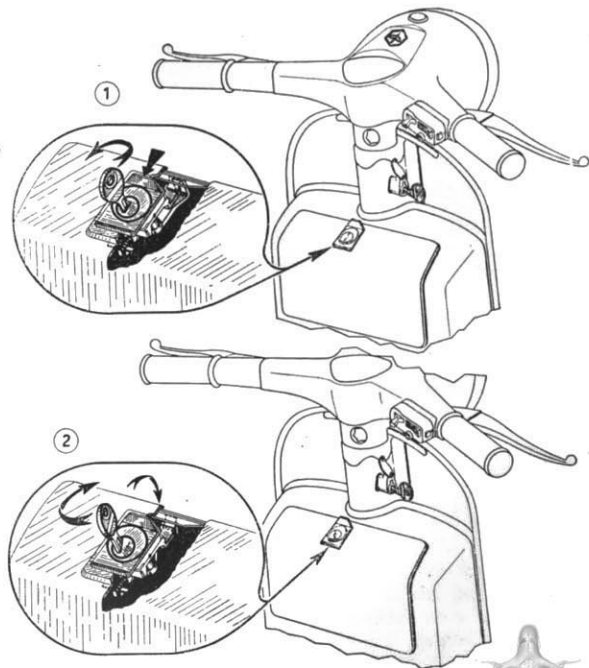
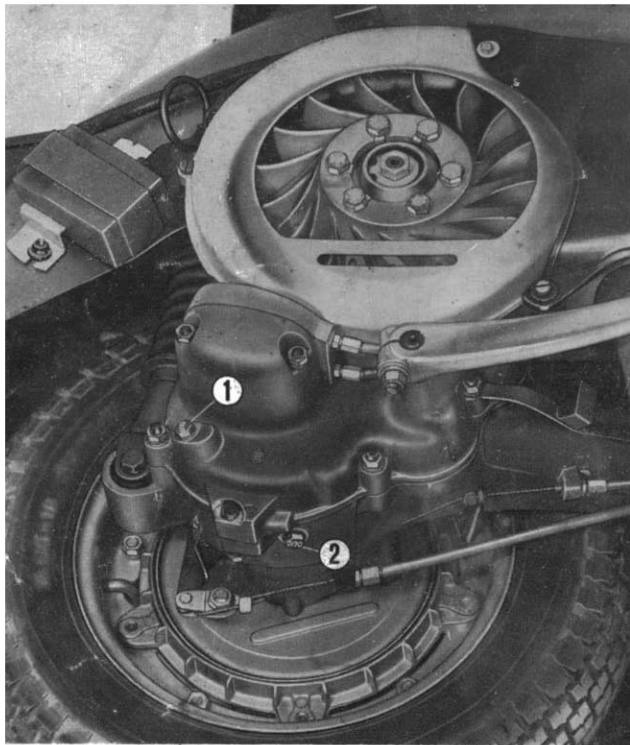

Fig. 4 - Front tool box lock
Fig. 16 - Oil filler hole (1); oil draining hole (2).
<p data-bbox="144 215 412 280">2. Front tool box lock</p> <p data-bbox="144 591 452 656">BEFORE OPERATING THE VEHICLE</p>	<p data-bbox="489 215 1105 513">To open the flap door of the front box insert the key in the lock and turn it fully anticlockwise, then slide down the external plaque of the lock (fig. 4). In order to close it, close the flap door until the lock clicks against the tool box; then turn the key clockwise and withdraw.</p> <p data-bbox="489 581 1105 726">Unscrew the plug on the gear box marked « OLIO » (fig. 16) and check that the oil is on a level with the hole when the vehicle is standing upright.</p>
- 1) - Check oil level in gear box (Fig. 16).